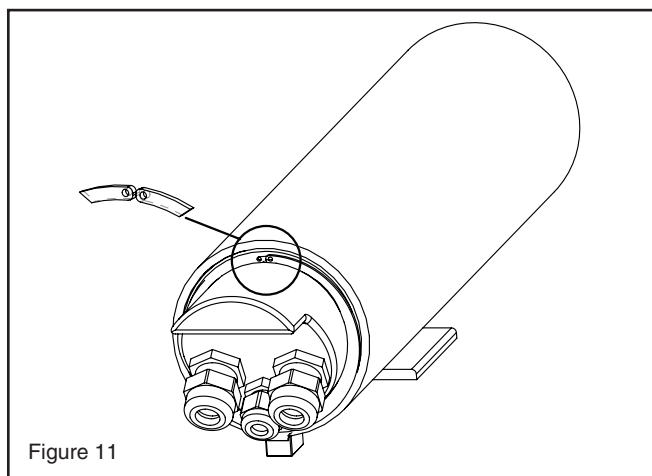

Figure 11
1. Reinsert the cradle assembly. Turn the slot on the retaining ring to the top of the rear cap (Figure 11).